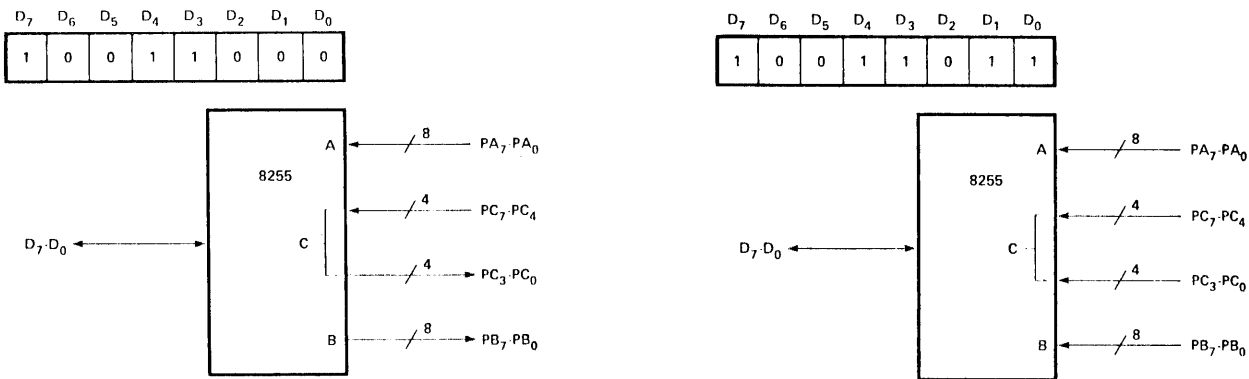

FIGURE 3-16. EXAMPLES OF MODE 0 CONFIGURATION.
• 16 different Input/Output configurations are possible in this Mode. Figure 3-16 shows two possible configurations.